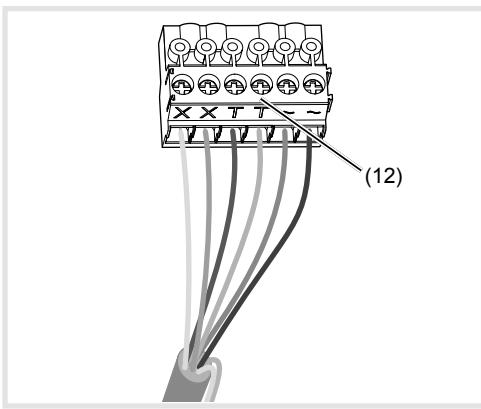

Figure 7: Wired connection terminal block
- Connect door release to the terminals **TT** of the connection terminal block (figure 7 and 8) if required.
- For call push-button backlighting connect 12 V~ lead from the power transformer to the terminals **~** of the connection terminal block (Figure 7... 9).
- Select the desired menu entry with ∇ / Δ (figure 7).